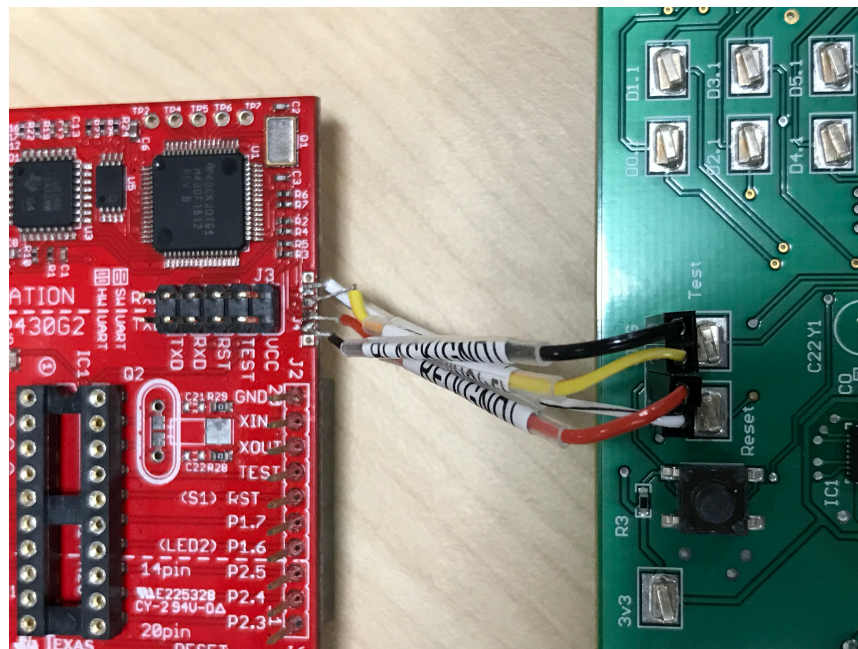

Figure 62. LaunchPad™ Connected to TIDA-01373
5. Connect the TIDA-01373 to the MSP430 LaunchPad with the short wires. Both boards should be orientated with the silkscreen up. Note that the two outside wires (GND and 3v3) are opposite on the TIDA-01373 Programming Board than on the MSP430 Launchpad (shown in Figure 62).